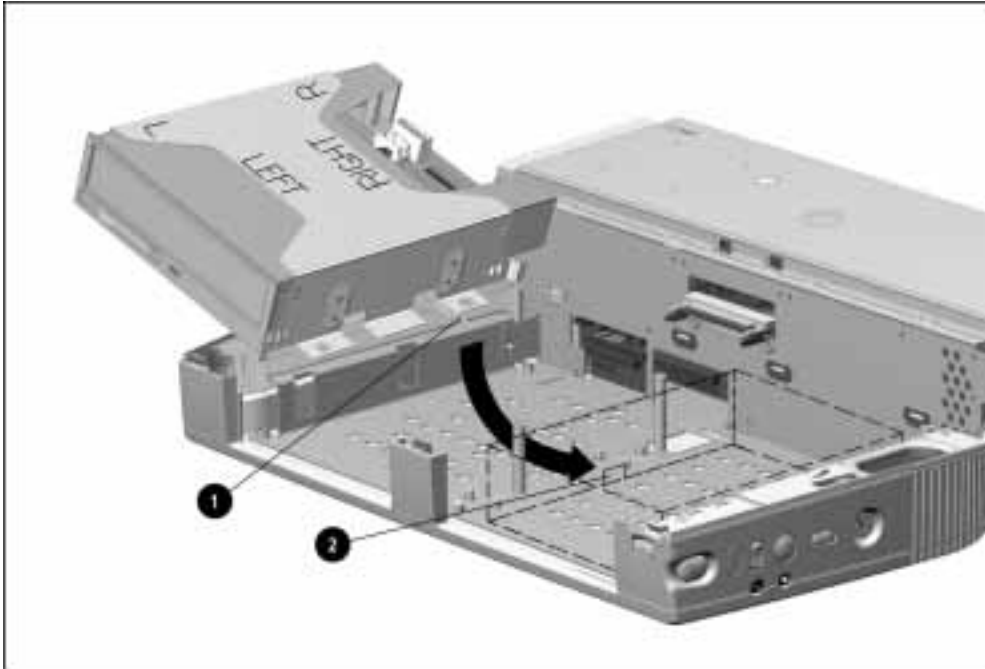

Figure 5-26. Installing the Half-Height MultiBay Adapter Assembly
9. Swing the drive cage/half-height MultiBay adapter assembly into the base assembly from left to right. Make sure the security extension bar ❶ extends to the right. If an Armada 7000 Half-Height MultiBay Adapter is being installed in the left half-height bay, the bar must fit into the channel ❷ on the MultiBay installed in the right half-half bay. Align the holes on the drive cage with the alignment pins in the base assembly (Figure 5-26).